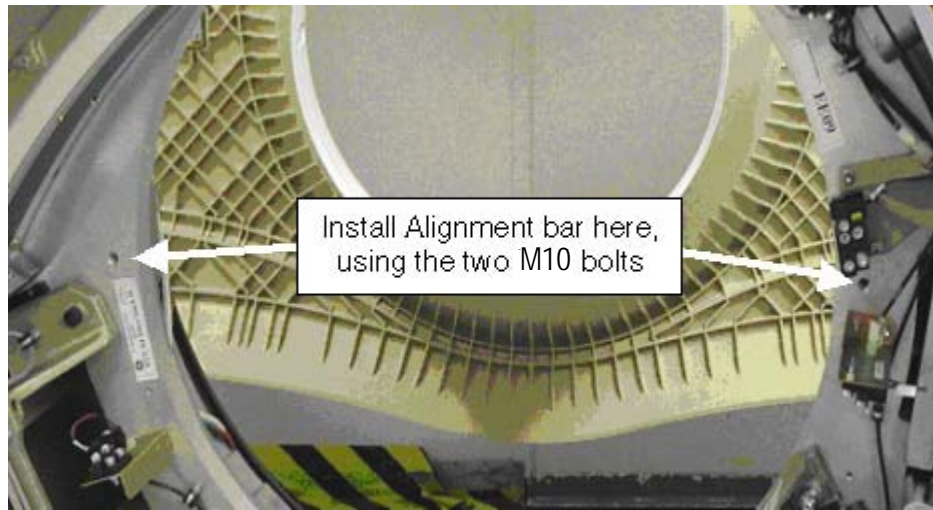

Figure 1-21 Alignment Bar Installation Location
- 6.) With the Gantry top, rear, and bore covers removed, locate the two M10 bolt holes as shown in Figure 1-21. These bolt holes are used to attach the laser tool to the gantry.
- Do not drop bolts or the bar on the collimator faceplate. Attach the bar as shown in Figure 1-21.